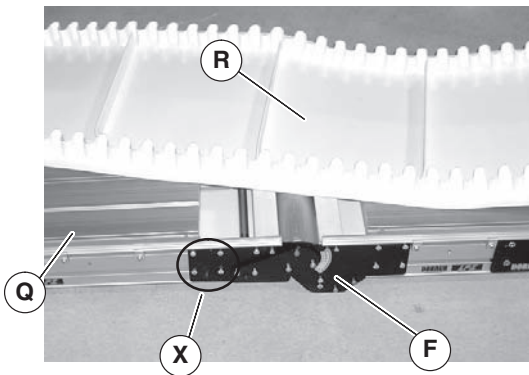

Figure 7
- Roll out conveyor belt (Figure 7, item R). Loosen (4) screws (X) on both sides of knuckle (E). Slide frame (Q) into knuckle (E). Tighten screws (X) to 60 in-lb (7 N-m) on both sides of conveyor.